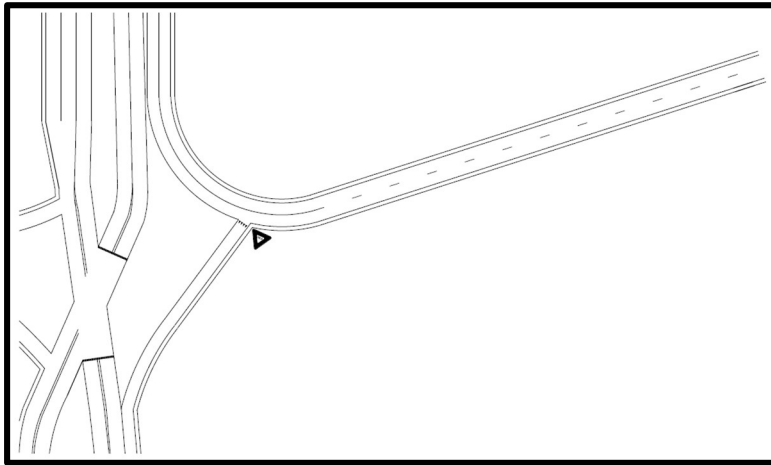

Figure 2. Yield controlled merge on entrance ramp.
- Be yield controlled and aligned at a 75-80 degree angle to promote visibility (as shown in Figure 2), or